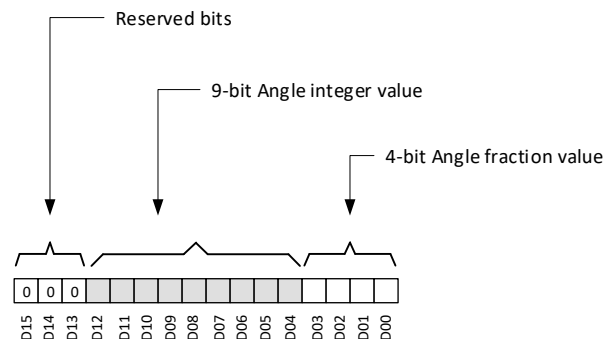

Figure 7-17. Angle Data Definition
The TMAG5273 calculates the angle from a pair of magnetic axes based off the ANGLE_EN register bits setting. Figure 7-17 shows the angle information stored in the ANGLE_RESULT_MSB and ANGLE_RESULT_LSB registers. Bits D04-D12 store angle integer value from 0 to 360 degree. Bits D00-D03 store fractional angle value. The 3-MSB bits are always populated as b000. The angle can be calculated using Equation 14.
- D_i is the data bit as shown in Figure 7-17.